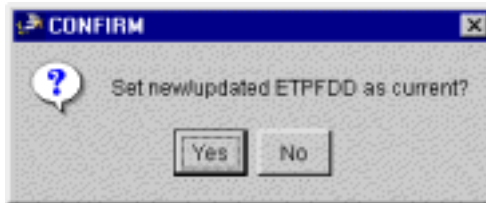

Figure 5.9 CONFIRM Window
7. Click **Overwrite**. The **Save ETPFDD As** window goes blank, and after a few moments the **CONFIRM** window opens (Figure 5.9).